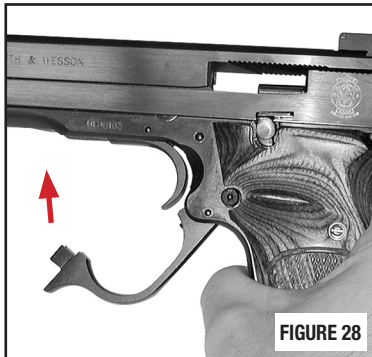

FIGURE 28
- Rotate the trigger guard up into place (FIGURE 28).